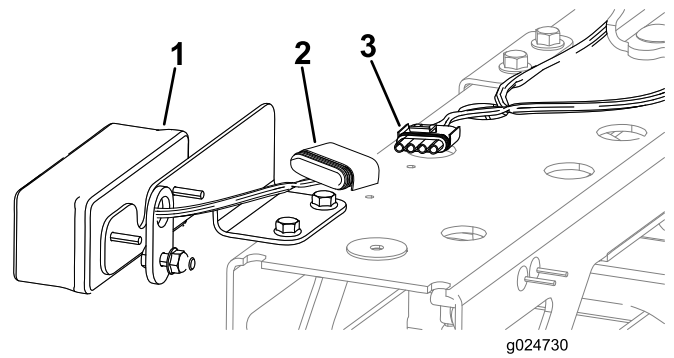

Figure 39
- 6. Connect the 4-socket connector of the wire harness to the 4-pin connector of the tail-light lead (Figure 39).